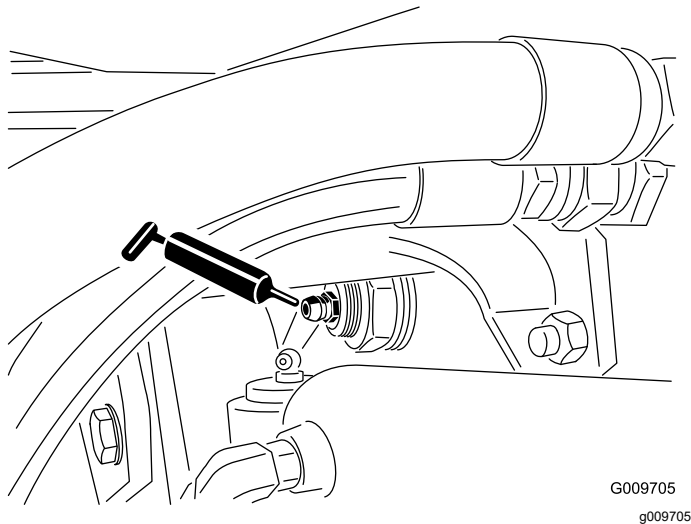

Figure 51
- Rear-axle-pivot bushings (2) as shown in Figure 51